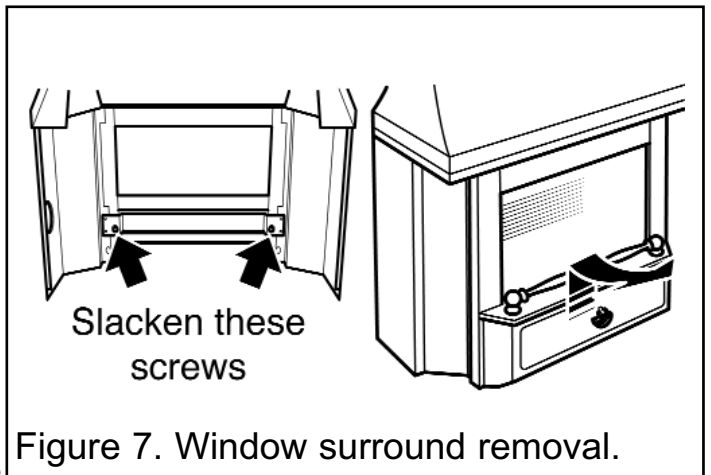

Figure 7. Window surround removal.
6. The front of the fascia is secured by two screws as shown in figure 7. These screws have been tightened to avoid damage to the fascia during transit. These screws must be slackened to enable the customer to remove this section of the fascia. Slacken the two screws, detach the window surround by sliding it upward and then swinging the bottom forward. Lift and store carefully.